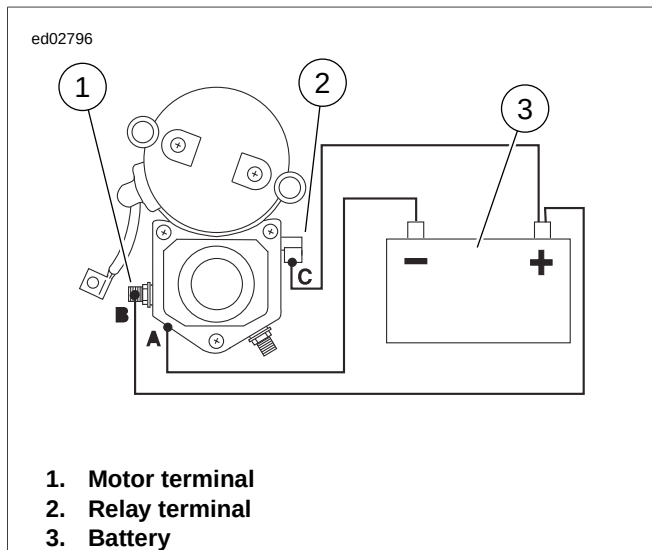

Figure 1-9. Hold-In Test
1. See Figure 1-9. With test leads still connected in the manner specified in the previous 1.6 TESTING STARTER ON BENCH, Solenoid Pull-In Test, disconnect solenoid motor terminal/battery negative test lead at negative battery post only; reconnect loose end of this test lead to positive battery post instead.